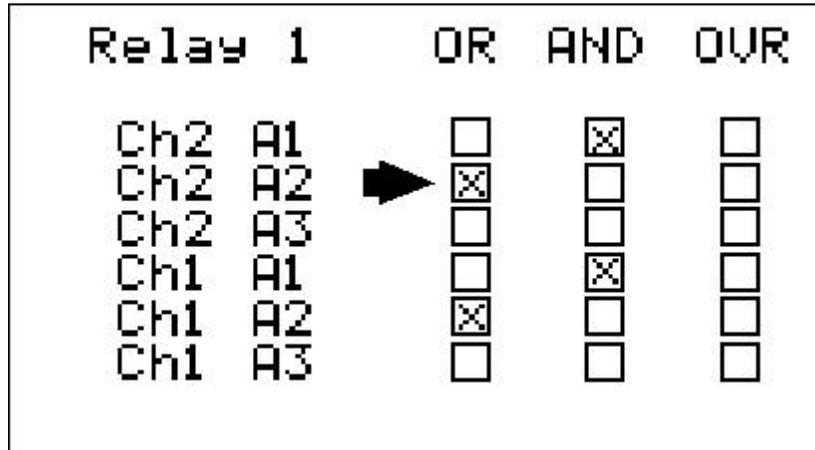

Figure 2.10
- The ViewSmart 200 display PCB is equipped with a small audible piezo that chirps when keys are pressed providing an audible feedback to the operator. It also may be set to audibly indicate alarm conditions by entering YES into the **Piezo On** menu item in Figure 2.10. This piezo will then mimic the **Horn** settings menus described in section 2.3.1.